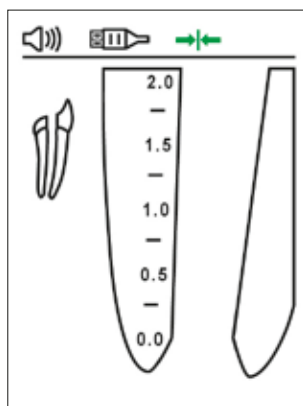

Figure 4
- The “Connection” symbol  should appear on the status bar of the display, indicating proper connection (Fig. 4).